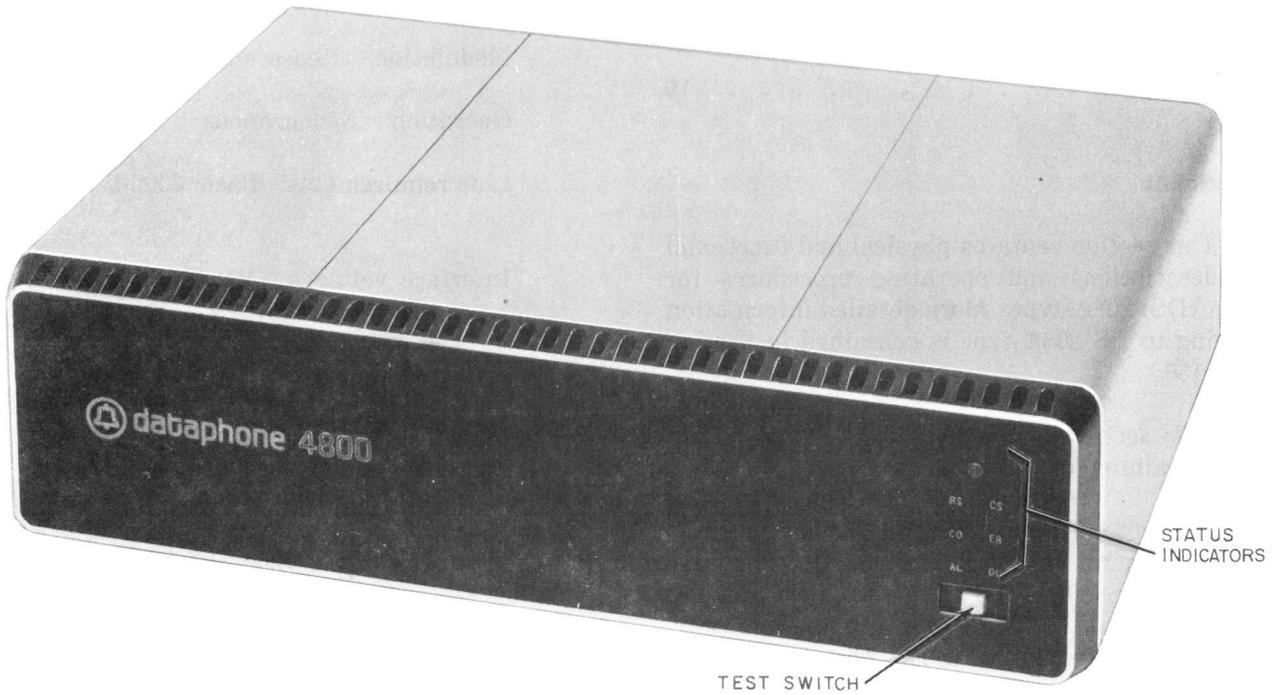

Fig. 2—Front View of DS 208A-L1
1.04 Data sets 208A-L1A and 208A-L1B have self-test capabilities that make possible data set and data channel tests without external test equipment. DS 208A-L1 (Fig. 2) may be converted to DS 208A-L1A by removing CP HG9 and replacing it with CP HG23. This CP requires a different front cover (840807655) for the data set.